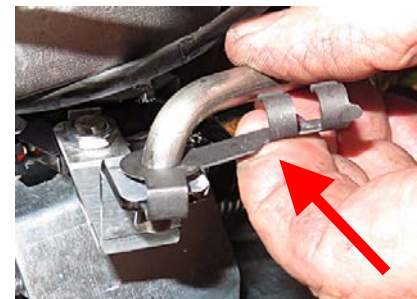

Figure 49
52. Attach the dispose handle assembly 1080686 to the dispose switch valve assembly with the clevis clip (see Figure 49).